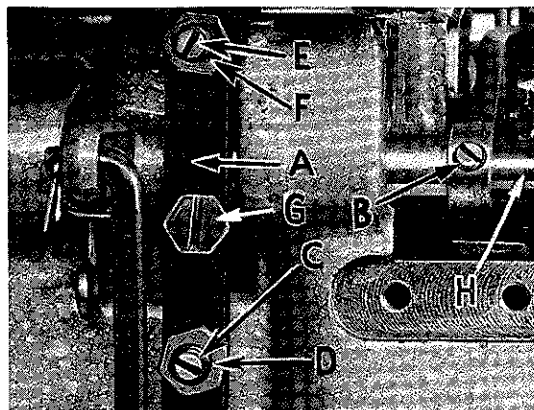

Fig. 14
Assemble the presser foot to presser arm. With needle in high position, swing presser arm into sewing position and set the presser foot to align needle holes (front and back) and flat on throat plate. The front edge of needle hole in presser foot must be aligned with front edge of needle hole in throat plate. It is also important that the bottom of the presser foot be flat on the throat plate. If necessary, presser foot can be realigned with throat plate slots by shifting the foot lifter lever shaft (H, Fig. 14). To move the shaft, loosen collar screws (B, Fig. 14) and clamp screw (G) and then shift the foot lifter lever shaft to the left or right as required. Retighten collar screws and clamp screw.
The foot lifter lever arm (A, Fig. 14) and the collar (B) secure the shaft. Be sure the presser arm does not bind and rise when presser foot release bushing is unlocked.